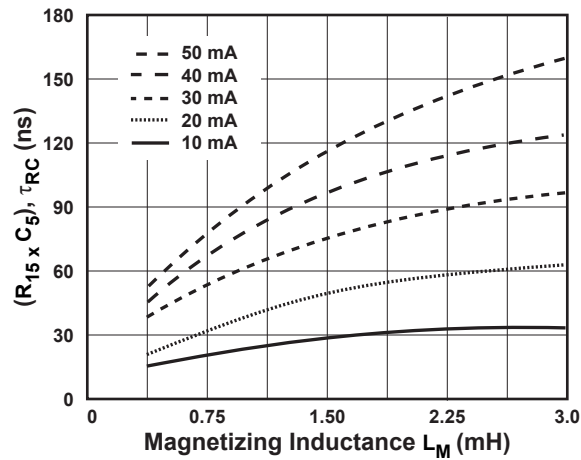

Figure 11.0.7. T_{ON} Compensation Chart
2. Find the curve that best matches this difference from Figure 11.0.7.
Solving for C5 in equation 10.54, we get 44 pF. The result should be a match between high line and low line constant current curves. See figure 11.0.7 for details.